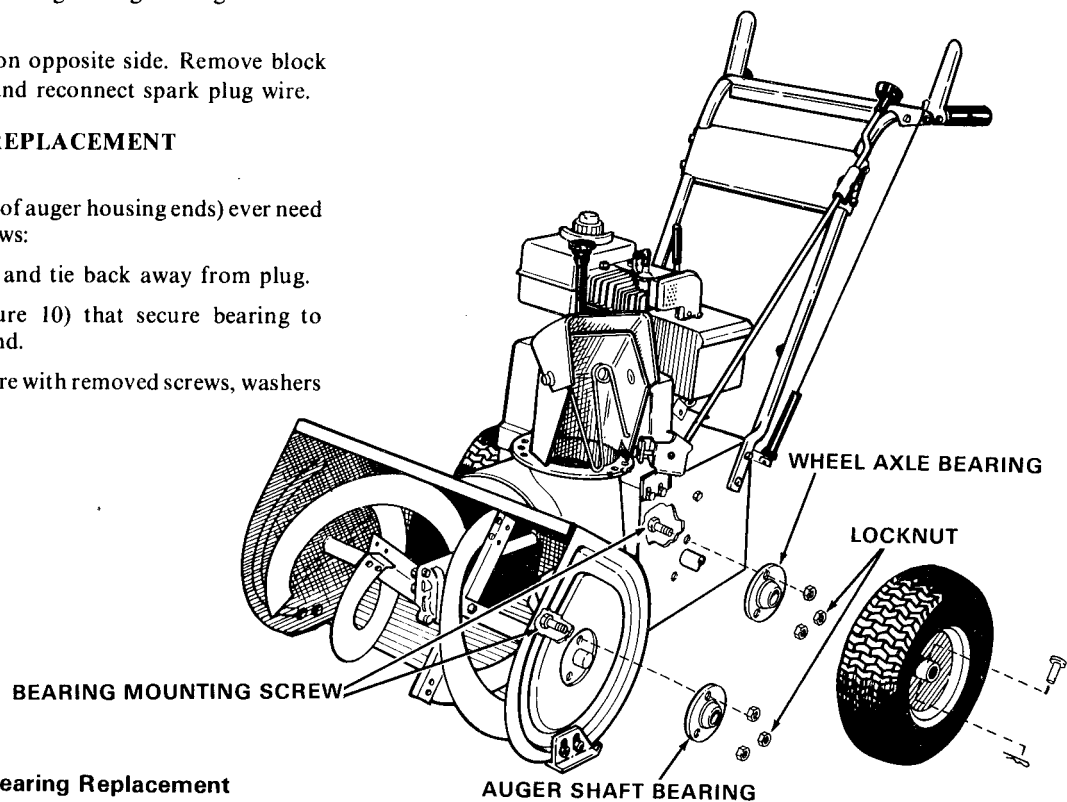

Figure 10. Wheel & Auger Bearing Replacement
3. Remove pin (figure 10) that secures wheel to axle and remove (mfg. no. 1690900 has bolt).
2. Remove three screws (figure 10) that secure bearing to outside of auger housing end.